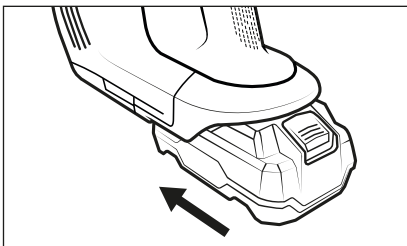

Fig. 3
- 3) Push the battery **2** into the appliance until it audibly clicks into place (see Fig. 3).